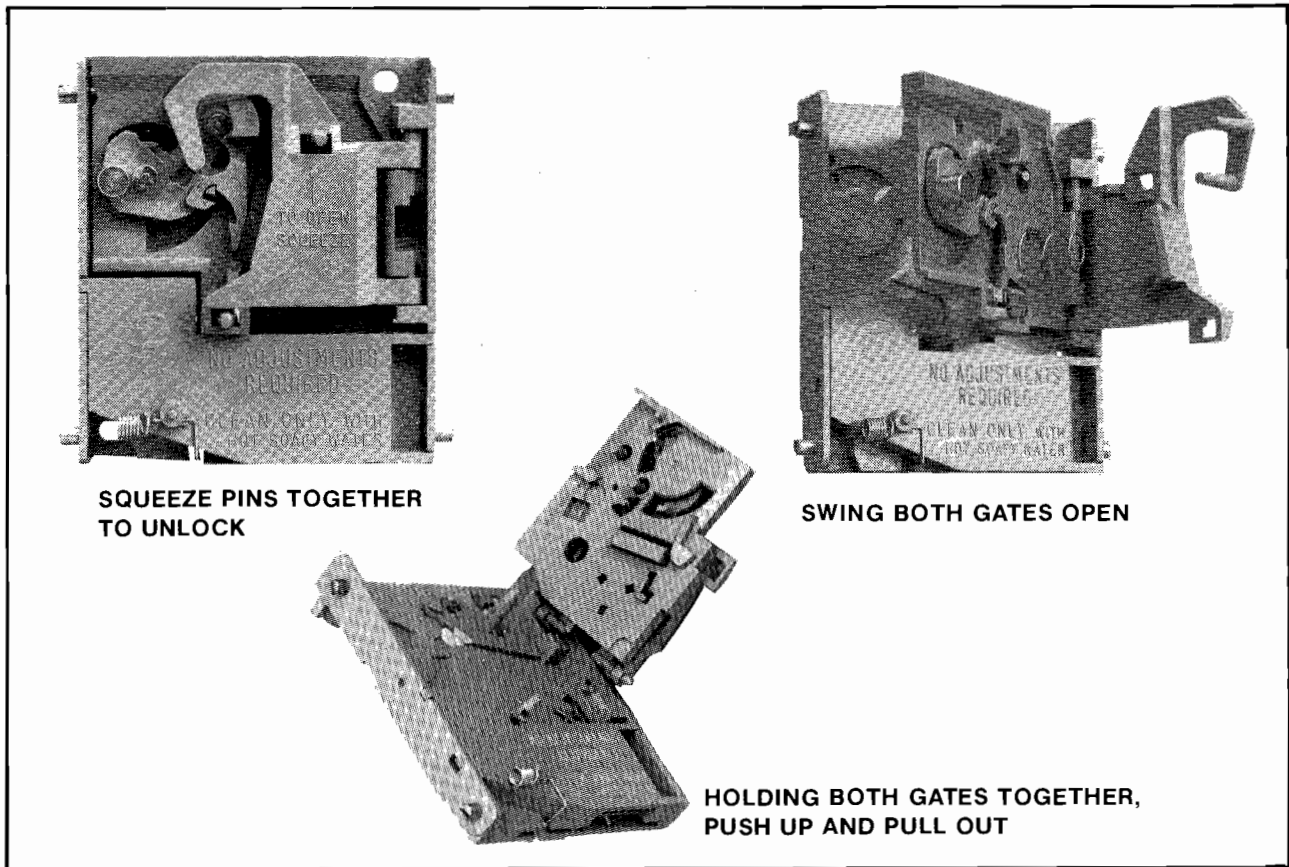

Figure 28 Opening the plastic coin acceptor
- Squeeze the two pins indicated in Figure 28 together to open the mechanism and break it down into its three basic parts.